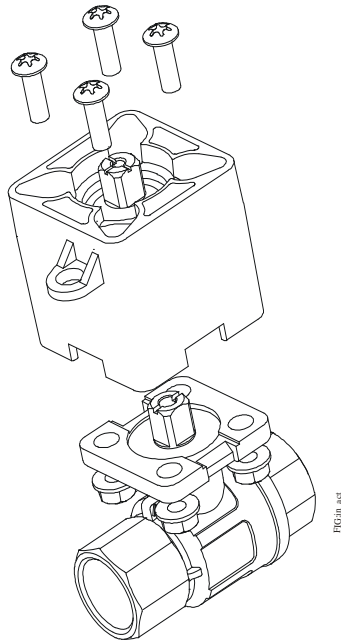

Figure 18: Installing the Barrier
3. Mount the thermal barrier onto the valve using the four included M5x16 mm machine screws and four M5 flange nuts. Tighten the screws to a recommended torque of 21 to 25 lb-in. (2.4 to 2.8 N-m) (Figure 18)